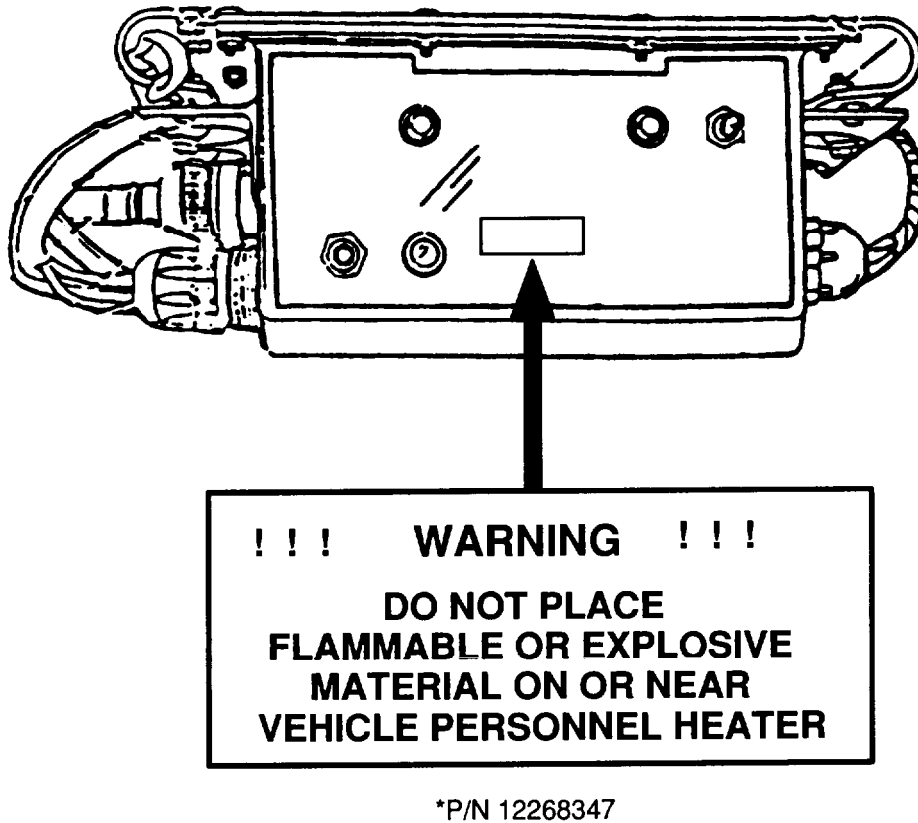

Figure 7
25. Remove the protective backing from label 12268347\* and position on the face of the Accessory Control Box Panel as shown in Figure 7.